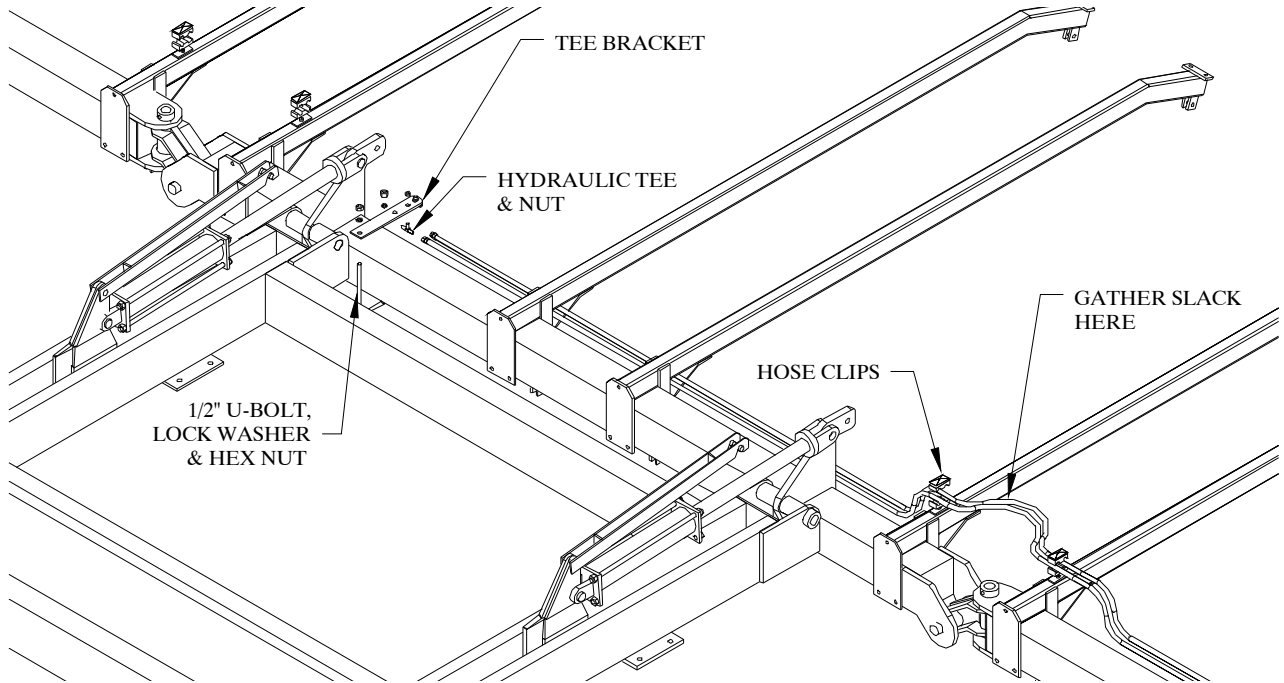

Figure 22
5. Bolt the hydraulic hose tee post to the center bar 6” from the center bar hinge plate as shown in Figure 22. Use a ½ x 6 x 7 ¾ U-bolt, lock washers and hex nuts.